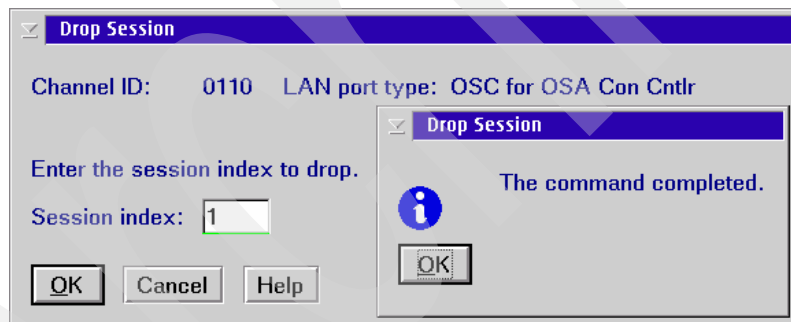

Figure 4-13 Drop Session command completed
2. On the Drop Session panel, enter the session index number of the session you wish to drop, and click **OK**. The Drop Session command-completed panel appears, as shown in Figure 4-13.